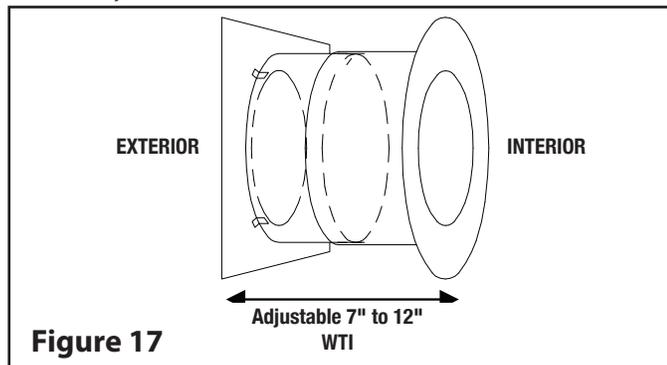

Figure 17
Step 2. Wood walls: Place the exterior half of the Wall Thimble in the opening from the outside. Fasten in place using (4) 2" nails or 1" screws. This Wall Thimble is adjustable from 7" to 12". (see Figure 17). Make sure the insulation pad is cut to the desired length according to the wall thickness. Place the interior half of the Wall Thimble inside the exterior half of the Wall Thimble.